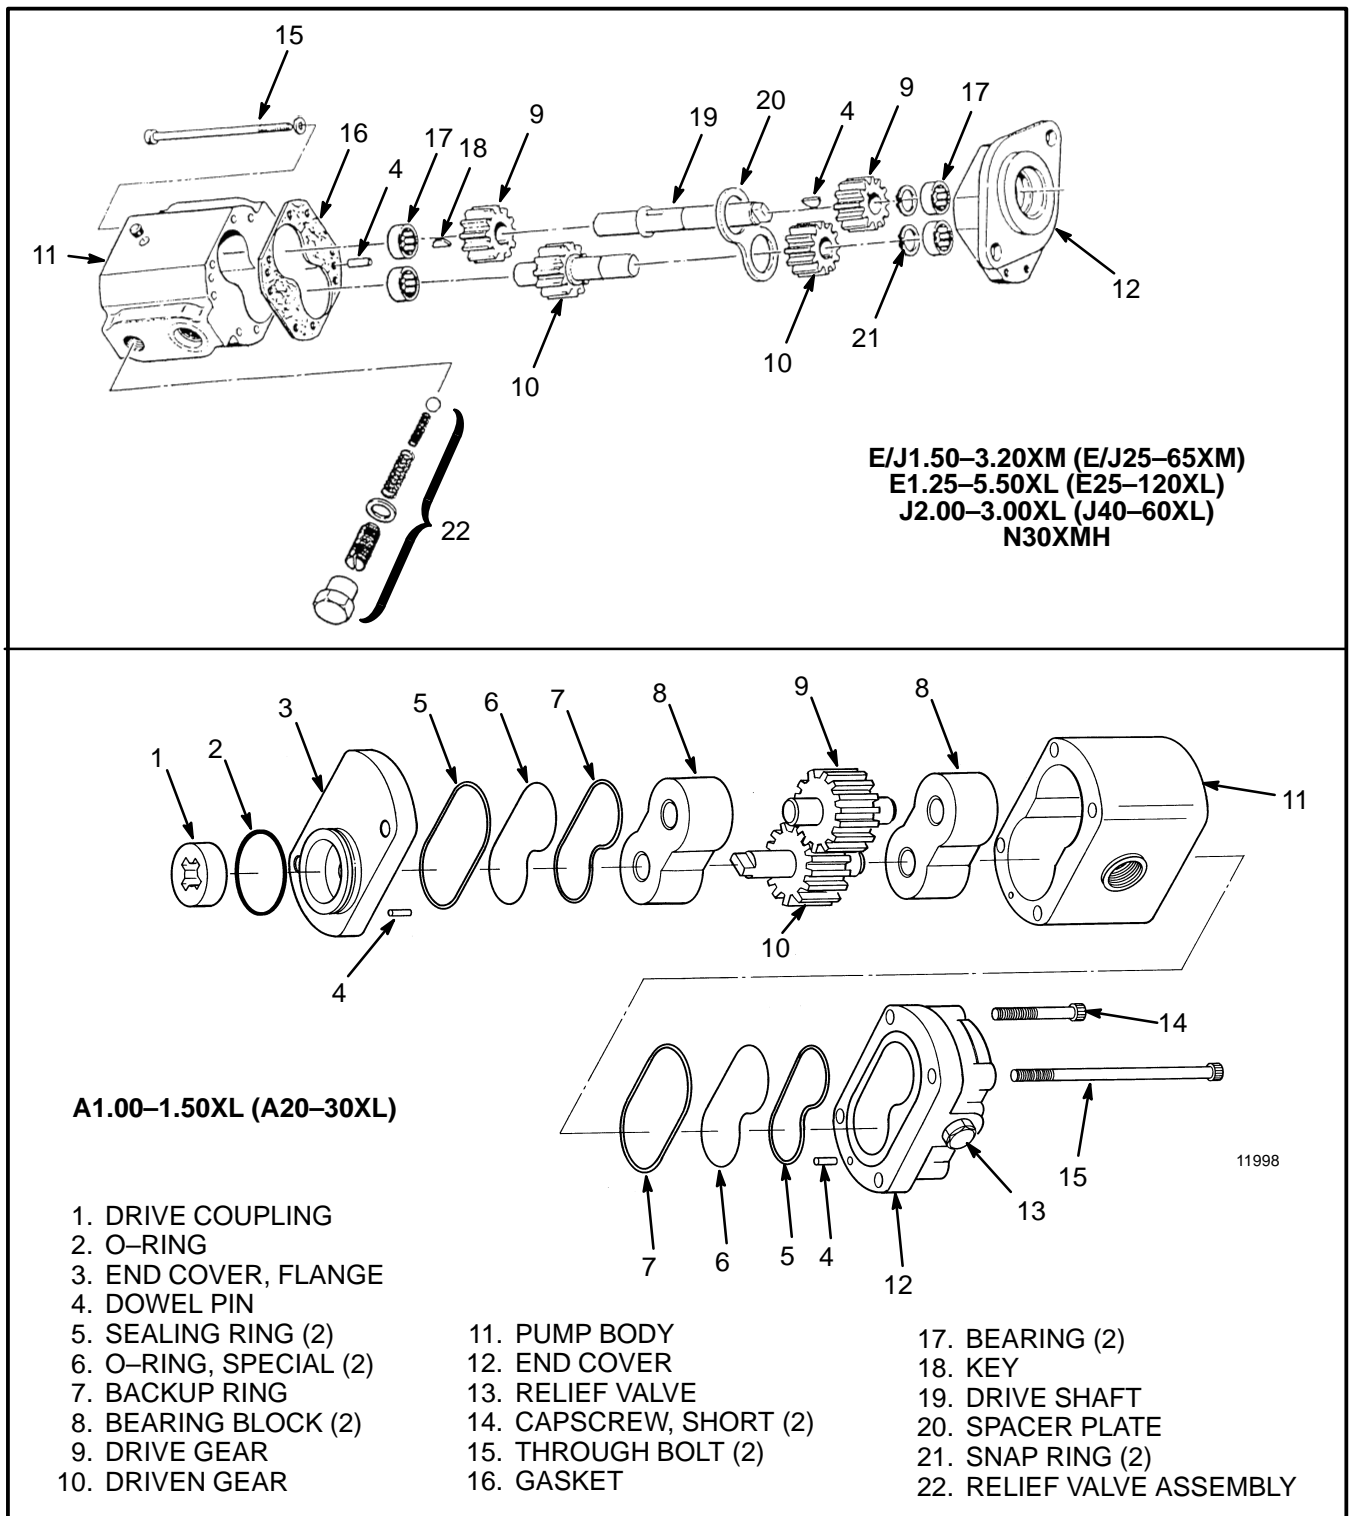

FIGURE 10. POWER STEERING PUMP
7. Install new O-rings, seal rings, and dowel pin into the end cover of the pump with the relief valve. See FIGURE 10. for the arrangement.